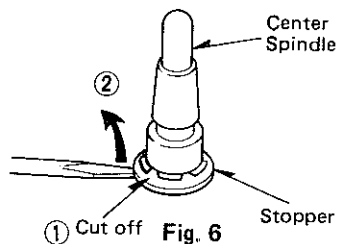

Fig. 6
2. Insert the screwdriver between stopper and P.C.B., then shift it up in the direction of arrow ② as in Fig. 6.